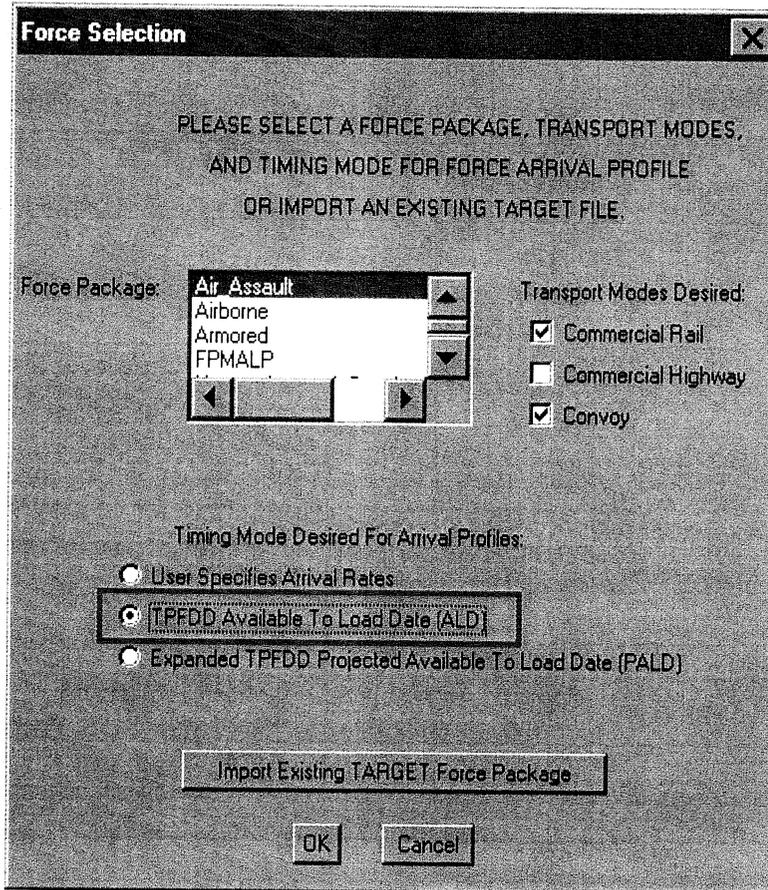

Figure 9: Stochastic Cargo Arrival — Option 2
1. When creating a new scenario or modifying an existing scenario, make the following series of choices on the PORTSIM menus and windows (Figure 9):